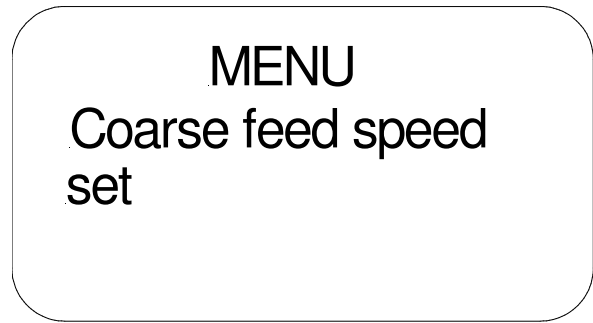

Fig. 32
- Turn the large turning knob (fig. 21.2) in a counter clockwise direction to the submenu "Coarse feed speed set" (fig. 32).